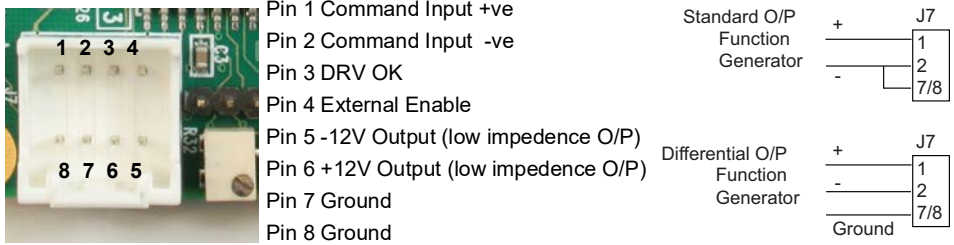

Fig. 3.17 J7 Command Input Connector Pin Identification
- 7) Connect a command input (e.g. function generator) to J7 of each driver board as shown in Fig. 3.17. J7 accepts Molex pins Pt No 56134-9100.